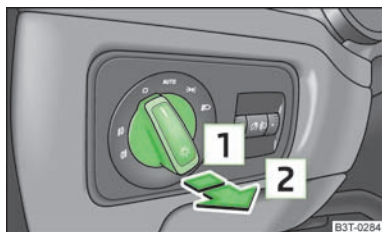

Fig. 34
- First of all, turn the light switch to position or » Fig. 34.